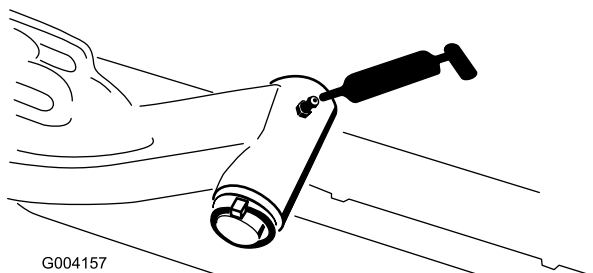

Figure 47
- Lift-arm pivot shaft (1 each) (Figure 47)